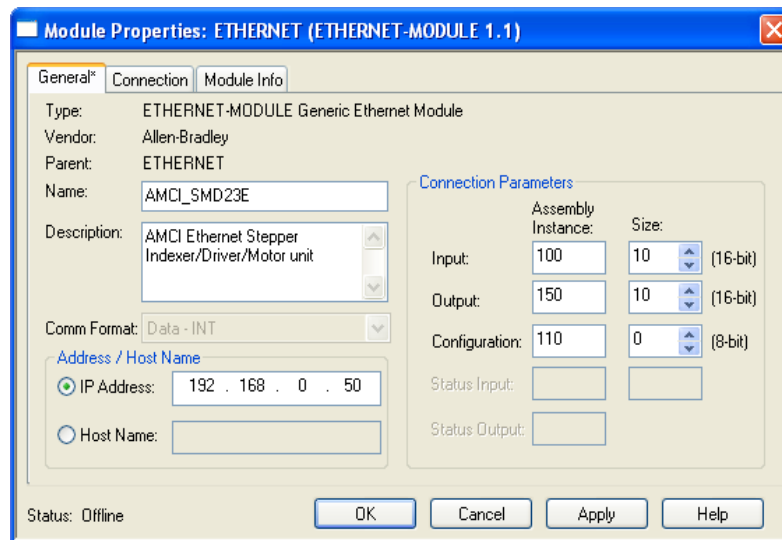

Figure 7.4 Sample SMD23E Configuration Screen
- 3) Set the following parameters in the Module Properties window. All parameters not listed here are optional. Figure 7.4 shows a completed screen.